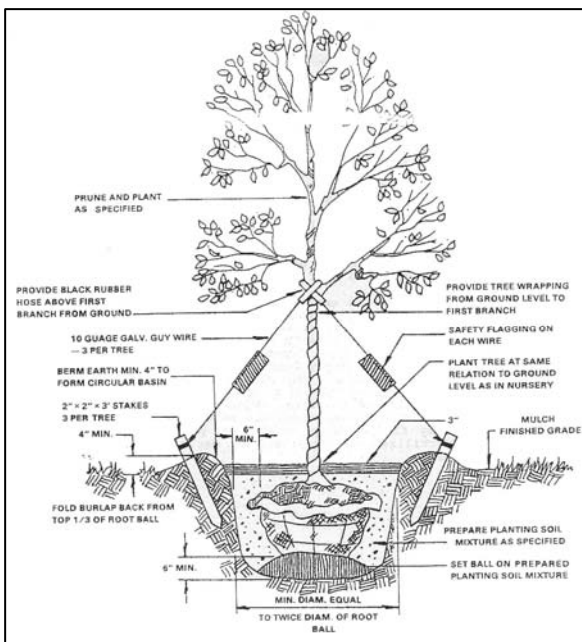

Figure TP-1 Tree Planting Diagram
- Prepare hole to allow proper placement of the root ball. (See Figure TP-1).
- If needed, provide support with stakes and guy wires (see Figure TP-1). Guy wires should be